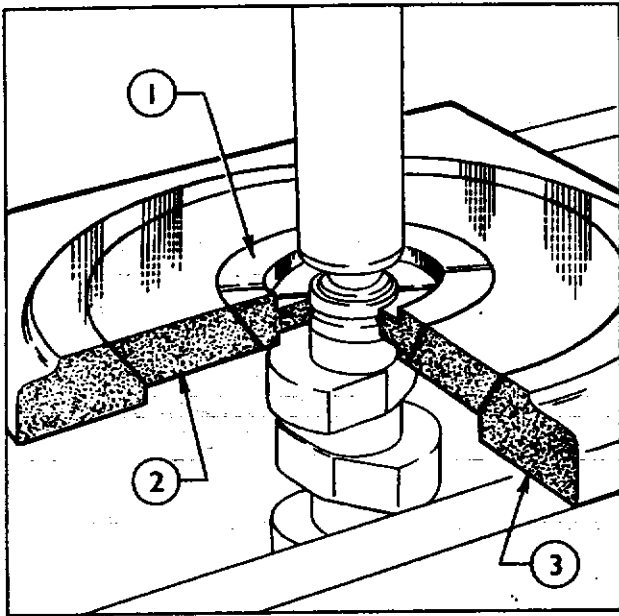

Fig. 23
20. Remove the camshaft bearing inner races using a suitable press, universal taper plate Tool No.370, slave ring Tool No. CT.9056, and adaptors Tool No. CT.6085-1A (see Fig. 23).